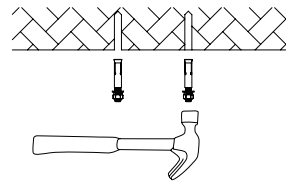

FIGURE 4
2. Fix screw into the hole with a hammer (Figure 4).